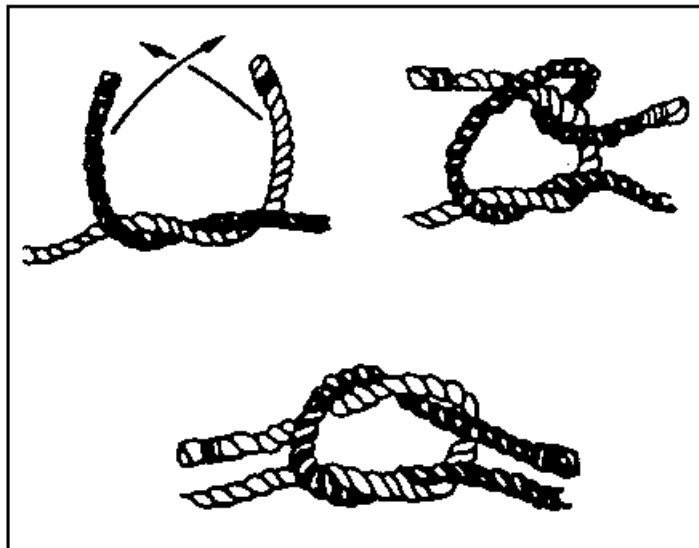

Figure 051-200-1075-1
1. Tie a square knot. Use the square knot to tie together two dry ropes of the same thickness. Make the first crossing left over right or right over left. Tie the second crossing opposite the first (Figure 051-200-1075-1).